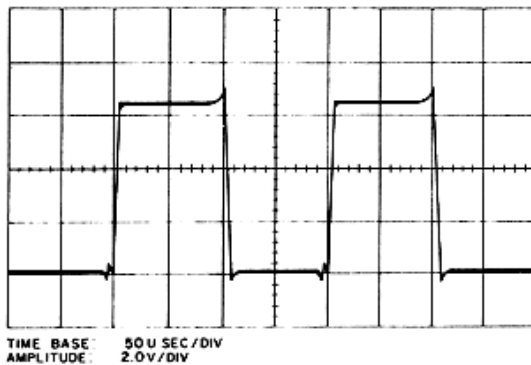

Figure 6.19 – Q11, Collector Waveform
m. Reconnect oscilloscope to collector of 5 kHz multivibrator stage Q11 (or top of R32). The observed waveform should resemble the one shown in figure 6.19.